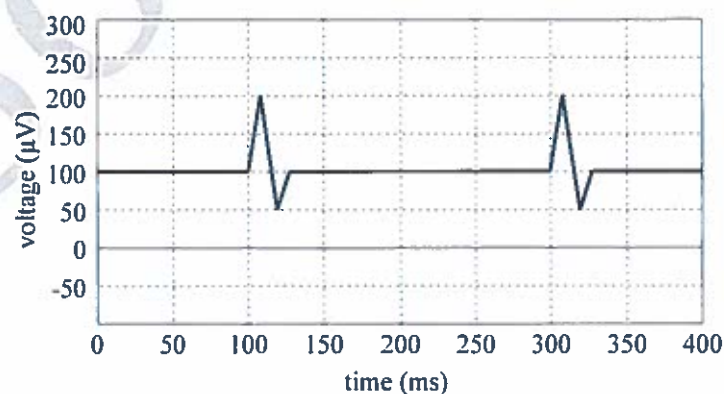

Figure 1.2
c) The Bio-potential amplifier in Figure 1.1 is used as part of a monitoring system to detect the action potential signal shown in Figure 1.2. The gain of the Bio-potential amplifier is set to $A=100$. The output of the Bio-potential amplifier is band-pass filtered between 0.3KHz and 5KHz with a 20db/decade high-pass followed 40db/decade low-pass filter. A final gain stage is added to maximize the dynamic range between +3V to -3V.
- From figure 1.2 student needs to realize that the 100uV DC is rejected and thus the maximum AC signal passing through is 150uV ptp or 100uV 0top. Realising this the maximum possible gain of the system is $3.3V/100uV = 33000$. [2]